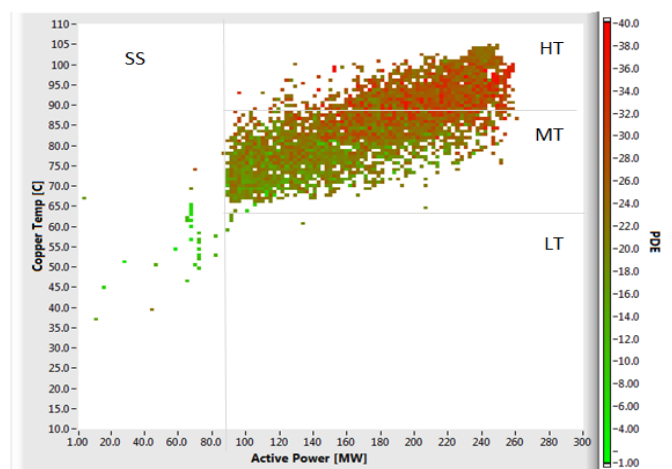

Figure 2 – PDE Map
Looking at the PDE Map (figure 2), obtained from a 300 MVA, VPI, Turbo-Generator, concentrations of red points are mainly occurring in the High Temperature (HT) zone. It is also clear that the red dots are occurring at power levels between 140 and 300 MW, which means that the PD mechanism is not directly dependent on load. What is also clear is that the red dots start to occur above 85°C. This behavior indicates the **presence of degradation at the semi-conductive coating in the slot portion of the winding** due to the increase of the semi-conductive resistivity with temperature.